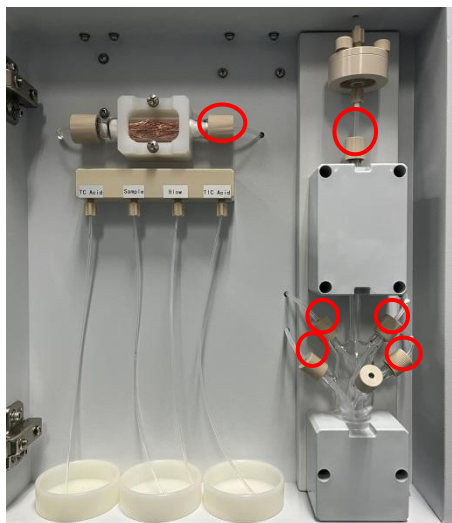

Fig.6.53
5) Unscrew the five gas circuit nuts from IC reaction tank and remove the gas circuit nuts on the right side of the halogen tube . (Fig.6.53)